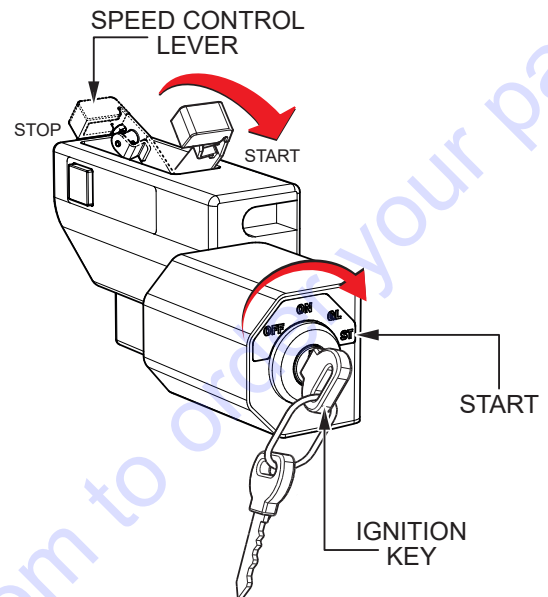

Figure 10. Starting the Engine
1. Move the engine speed control lever to the **START** position (Figure 10).
2. Turn the ignition key to the **START** position (Figure 10). Release the key when the engine starts.